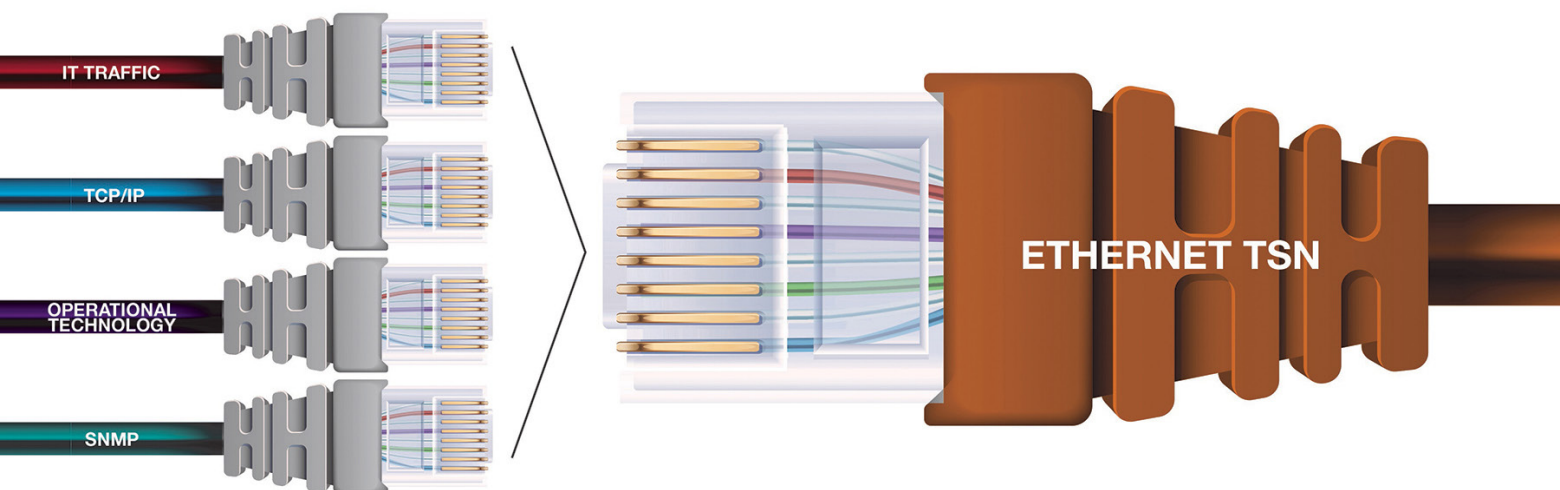

Figure 1. Time-sensitive networking allows all network communications to come through on a single cable.
Today, ethernet with time-sensitive networking (TSN) is the leading edge in industrial communications. TSN (figure 1) is an innovative ethernet technology defined by the IEEE 802.1 standard that resides at Layer 2 of the OSI 7-layer model. This is quickly proving its essential role in the connected industries of the future thanks to its unique ability to support convergence on the factory floor as well as between information technology (IT) and operational technology (OT) worlds. Its importance is being acknowledged by several sectors that are demanding automation solutions with TSN capabilities.